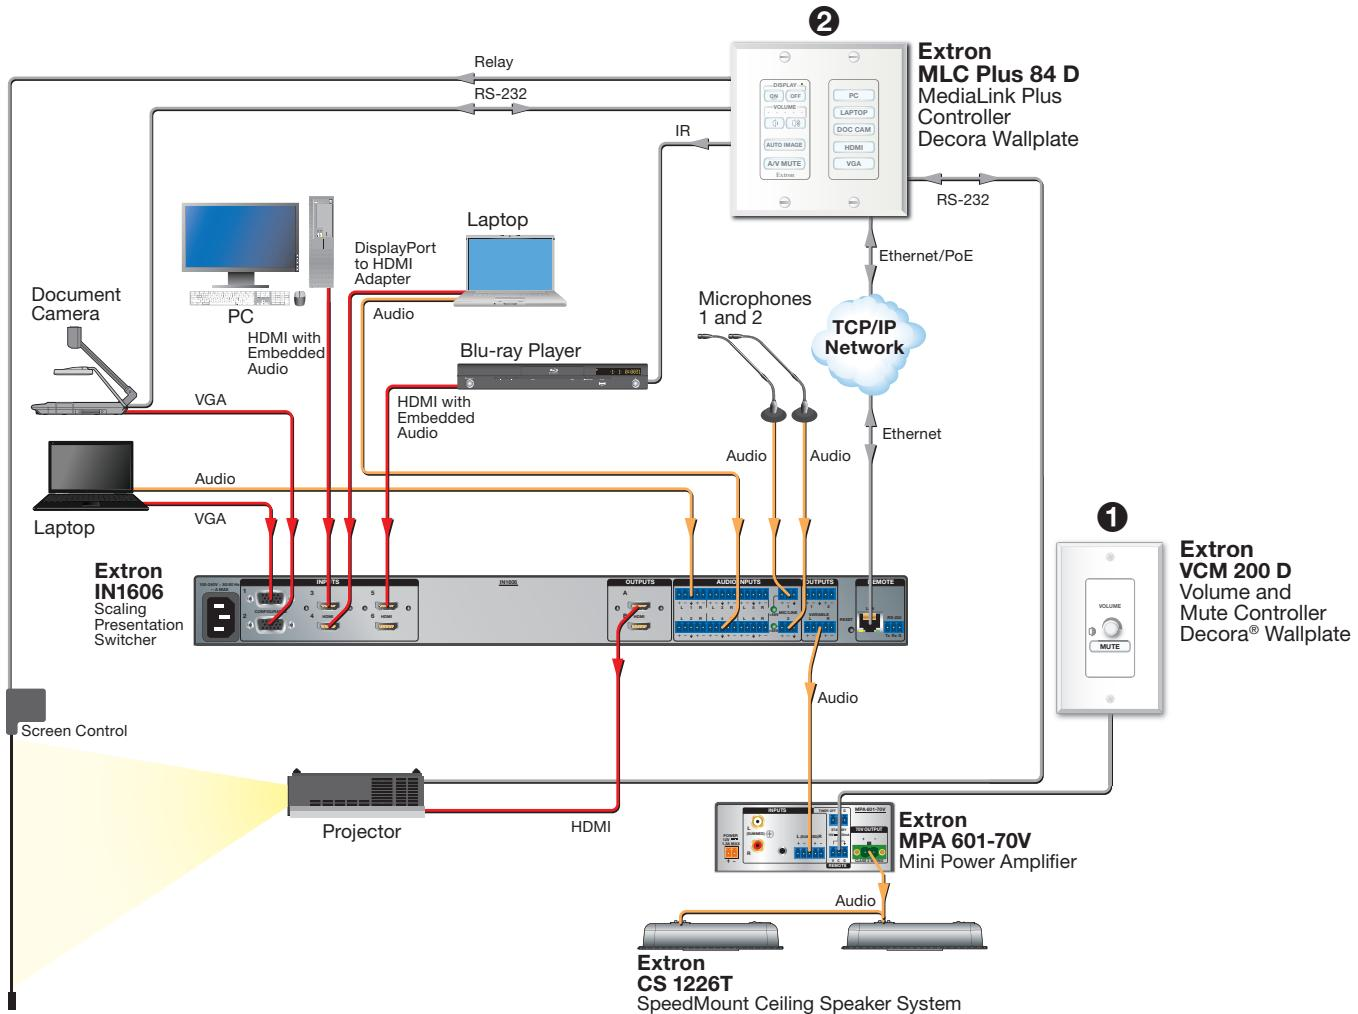

Figure 14. Direct and Indirect Remote Control Options
- ① Direct Remote Control** — For a system designed to control the volume of the amplifier directly, use a 10k Ohm potentiometer to control volume via the rear panel remote port on the MPA 601 (see figure 2, G on page 5). In figure 14 above, a VCM 200 D adjusts the level on the MPA 601 directly. Follow instructions found in the control product user guide.
- ② Indirect Remote Control** — For a system with variable audio output, connect the audio source output to the input of the MPA 601. In figure 14 above, an MLC Plus 84 D adjusts the audio level on the audio source via a network connection. Follow the instructions in the control product user guide.